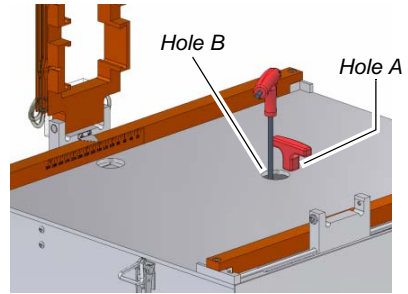

Figure 12. Insert T-bar into hole A, then use Hexagonal wrench to loosen bolts in hole B
5. Put the T-Bar tool through Hole A (Figure 12), this will lock the carriage in position.